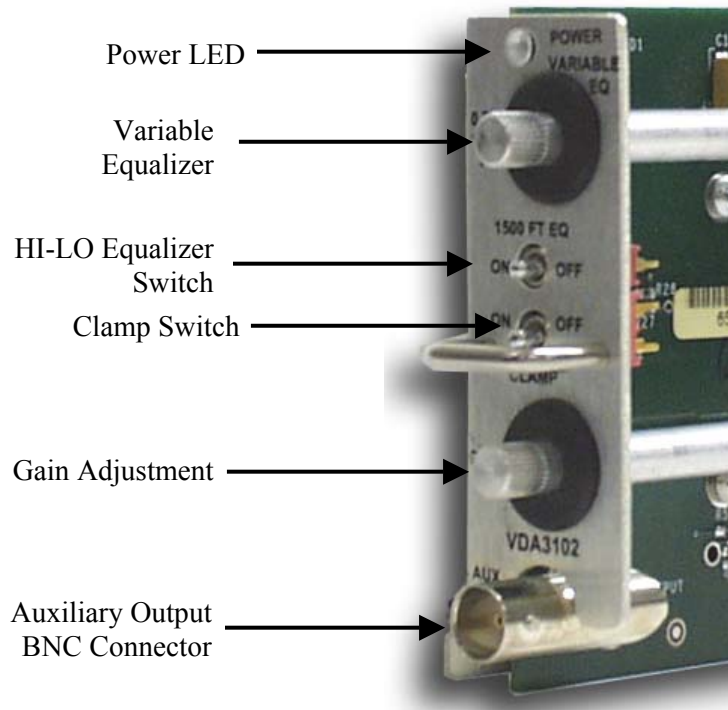

FIGURE 41: VDA3102 User Component Locations
This section describes the external user components (see Figure 41) and is subdivided into the following subsections:
The function of the power LED (see previous Figure 41 for location) is to provide a visual indication to the user that the on-board voltage regulators are operational and the board is energized. The power LED should be illuminated during normal operation. If the power LED dims or extinguishes during operation, check the operation of the VDA3100 mainframe's power supply or on-board regulators. If the mainframe's power system is operational and the other distribution cards appear operational, then the board should be suspected of malfunctioning and should be replaced.
The Clamp Switch (see previous Figure 41 for location) allows the user to activate or deactivate the VDA3102 cards “back-porch” clamp, which is dependant upon the user’s requirement. Typically, clamping is used with AC coupling at the input.
The HI-LO Switch (see previous Figure 41 for location) in the equalizer circuit allows the user to set the cable length equalization range. This switch adds in an additional 1500 feet of equalization (EQ). When the switch is in the OFF position, the adjustment knob allows for 0 to 1500 feet of EQ. When the switch is in the ON position, the adjustment knob allows for 1500 to 3000 feet of EQ.
The Variable Equalizer adjustment potentiometer (see previous Figure 41 for location) allows the user to adjust the input and/or output line equalizations. This adjustment affects the input equalization to all outputs (0 to 1500 feet). Clockwise rotation increases the Gain and counterclockwise decreases the gain.
The Gain (see previous Figure 41 for location) adjustment potentiometer allows the user to adjust the output signal gain. This adjustment affects all signal outputs. Clockwise rotation increases the Gain and counterclockwise decreases the gain.
This BNC connection (see previous Figure 41 for location) allows the user to access and monitor an output signal that is consistent with all card output signals without having to disconnect and monitor individual outputs.